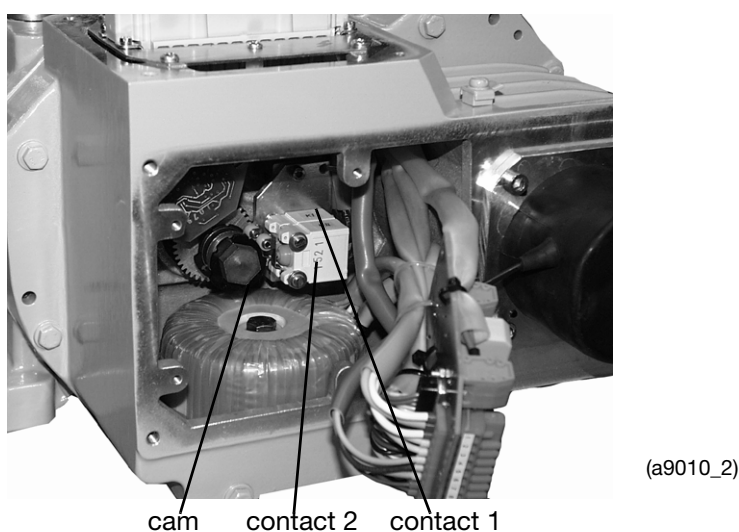

Fig. 10:
- shift the cams (see fig. 10) until the relevant contact is open / closed